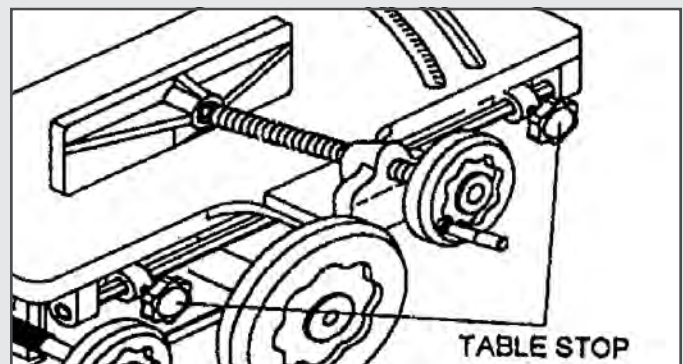

FIGURE 3: Adjusting TABLE STOPS
1. Place your workpiece on the **TABLE** and position it against the **FENCE**. Clamp the workpiece against the **FENCE** with the **VICE**, which you can move forward and backward with the handwheel. Adjust **TABLE STOPS** to suit the length of your mortise. See Figure 3.